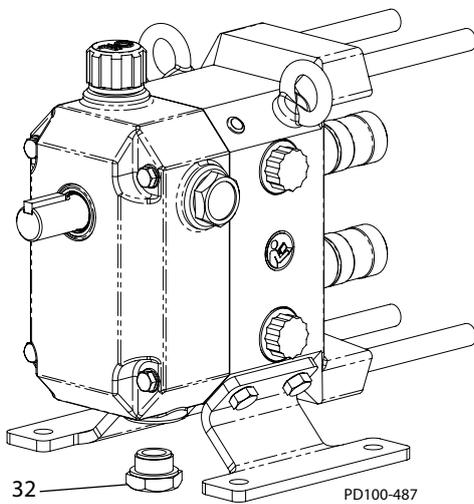

Figure 37 - Remove Oil Drain Plug
1. Remove the bottom drain plug (Figure 37, item 32) and drain the oil into an appropriate container. Dispose of the used oil in accordance with local requirements.